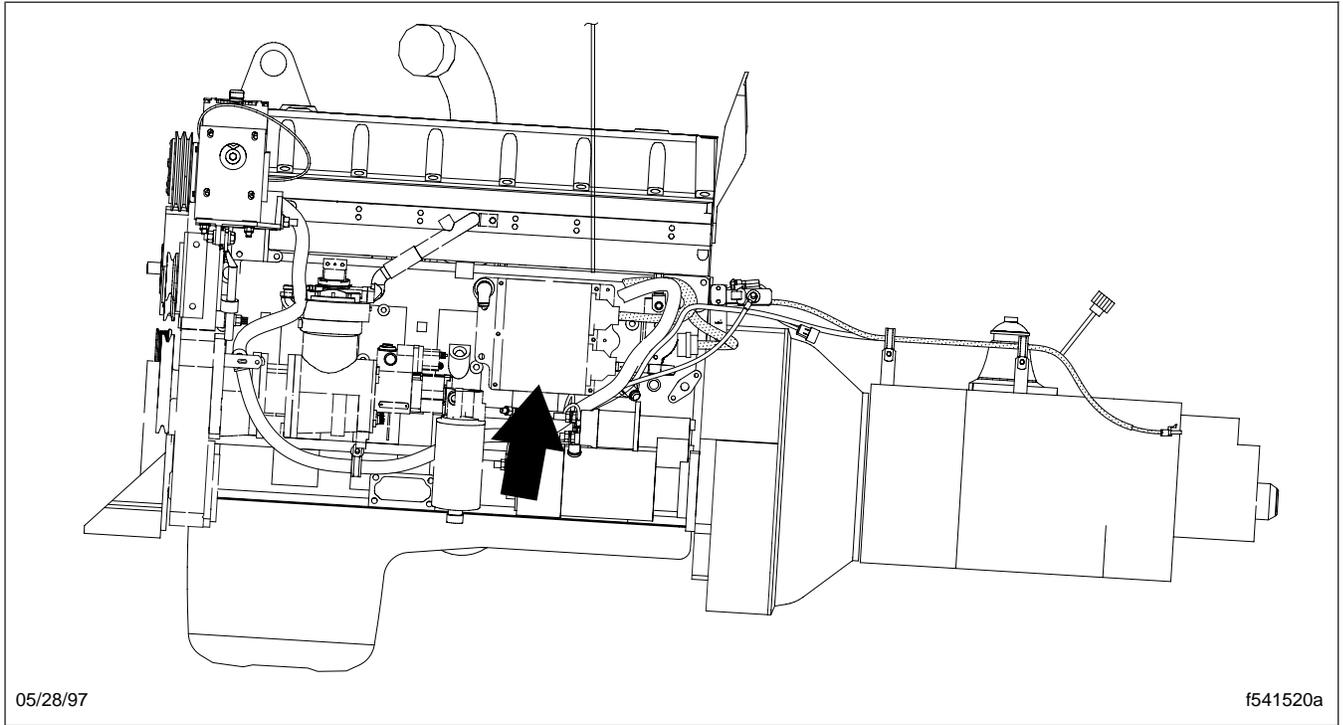

Fig. 5, Cummins ISM Engine ECU Location
- For Cummins ISM engines, see Fig. 5.